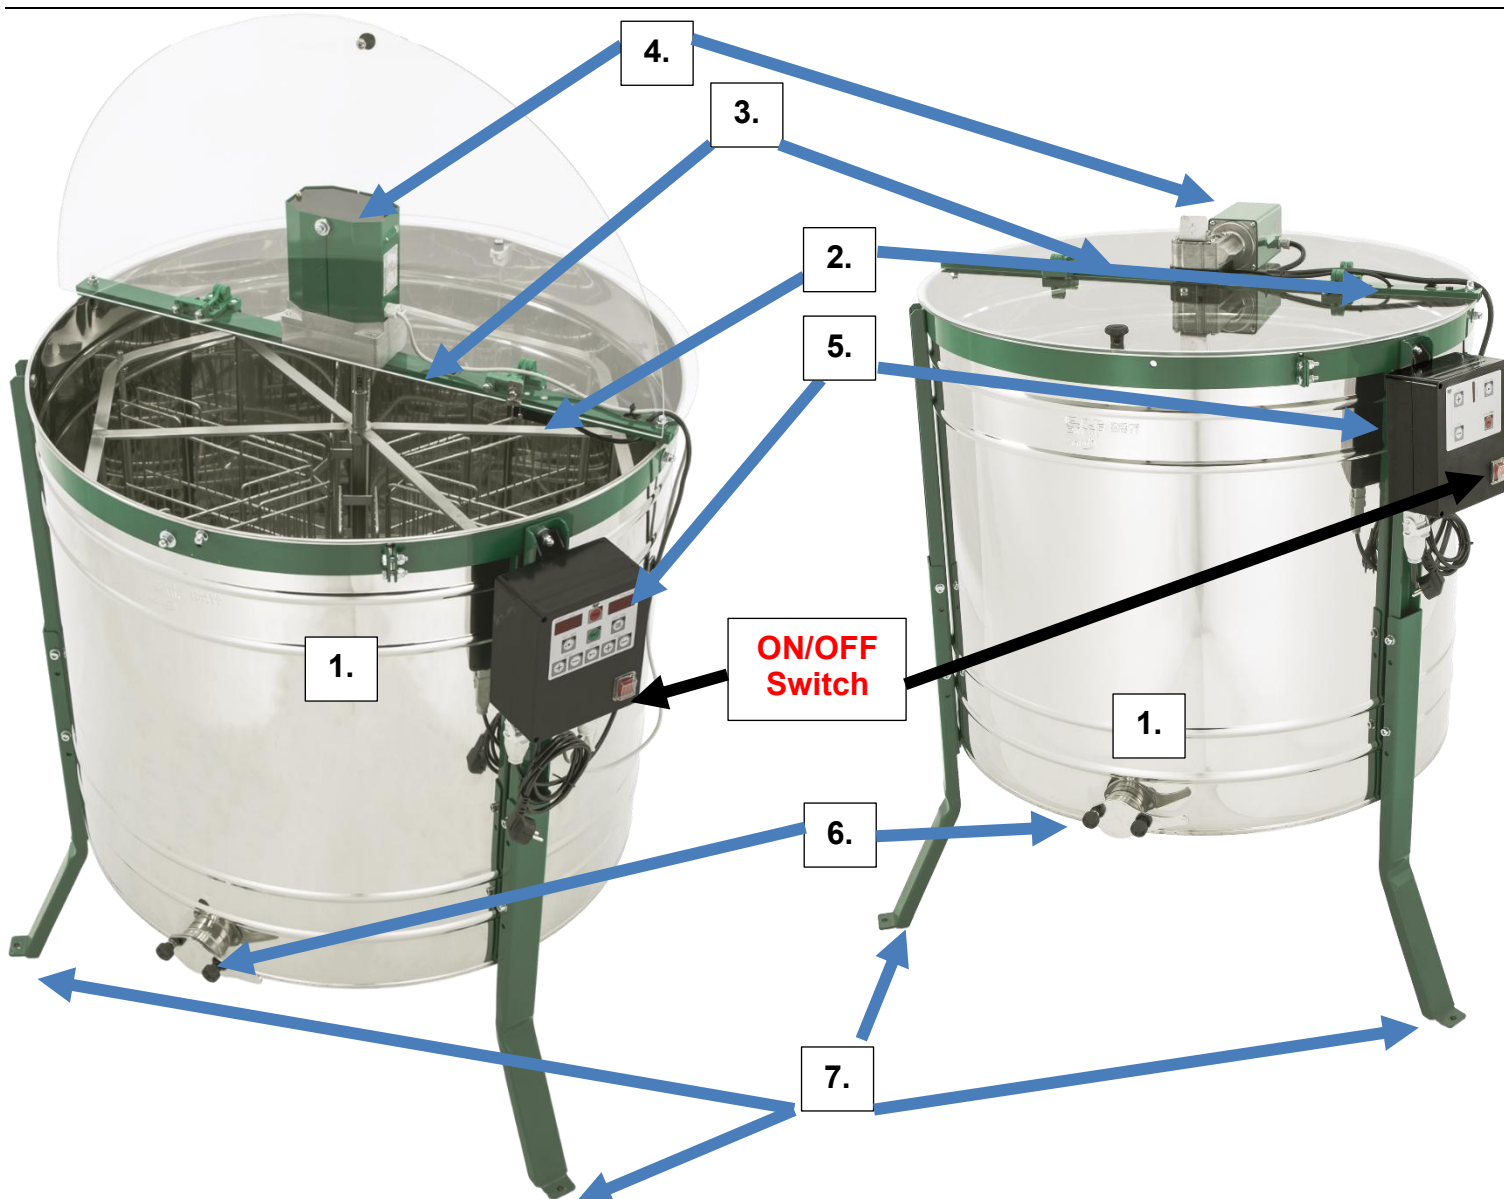

Fig. 3.1. Design honey extractor SAF NATURA 150 W / ECO 200 W
1.	Drum with internal threaded coupler and basket (see Fig. 3.1. – 1.)
2.	Micro limit switch (see Fig. 3.1. – 2.)
3.	Top bar with hinges and covers (see Fig. 3.1. – 3.)
4.	Motor (see Fig. 3.1. – 4.)
5.	Controller with power cable (see Fig. 3.1. – 5)
6.	Stainless steel flap valve with gasket - external thread (see Fig. 3.1. – 6.)
7.	3 Legs with two-position length adjustment (see Fig. 3.1. – 7.)